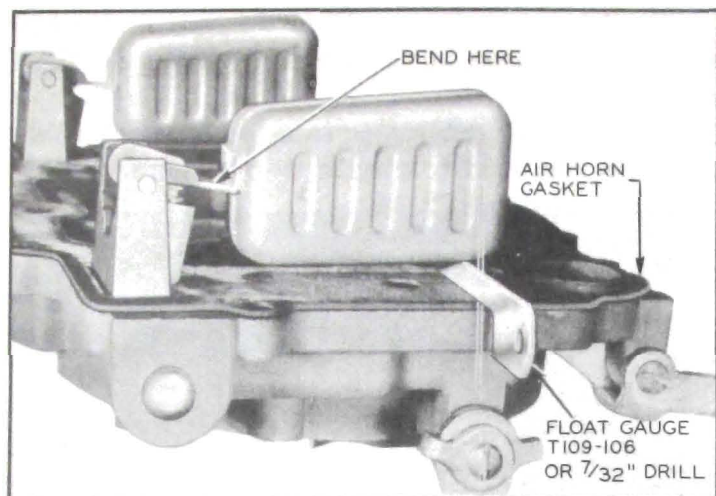

Figure 3-51—Checking Float Level
10. *Adjust Float Level.* With air horn inverted and air horn gasket in place, check clearance between each float (at outer end) and air horn gasket using Float Gauge T109-106 ( $\frac{7}{32}$ " ) or a  $\frac{7}{32}$ " drill. See figure 3-51. To adjust, bend float lever. After any adjustment, recheck float alignment.